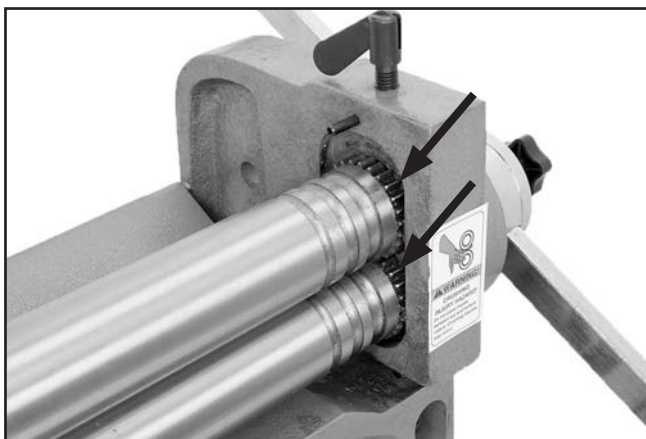

Figure 44. Gear grease locations.
1. Open the slip roll cover and brush a light coat of multi-purpose grease on the gear teeth at the end of the rollers (Figure 44). Turn the work lever to disperse the grease.